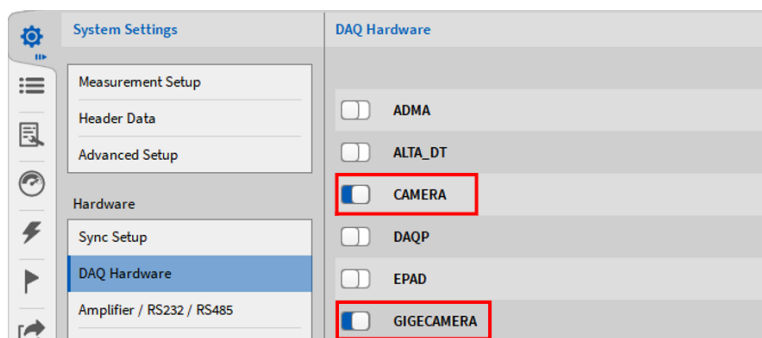

Fig. 8.82: Enabling the Camera Series and the GigE Camera series in the DAQ Hardware setup
**Note:** If the camera channel does not appear in the Channel List although a camera is connected to the measurement system, make sure that *CAMERA Series* for webcams or the *GIGECAMERA Series* for GigE cameras are enabled in the *DAQ Hardware* setup (see Fig. 8.82) in the *System Settings*.